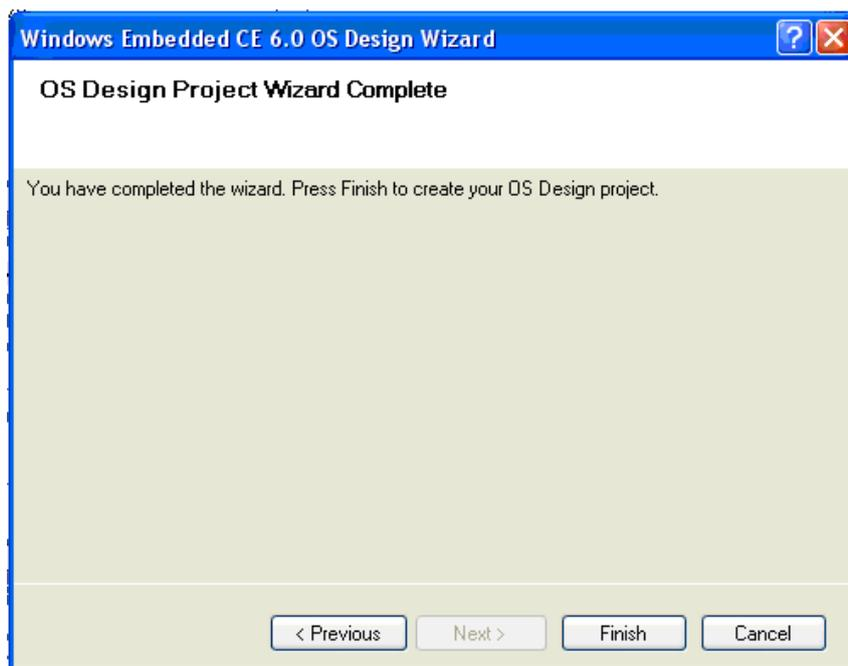

Figure 6.9
- Click Next button as shown in Figure 6.8, Click finish in newly opened OS Design Project Wizard Complete, see Figure 6.9: